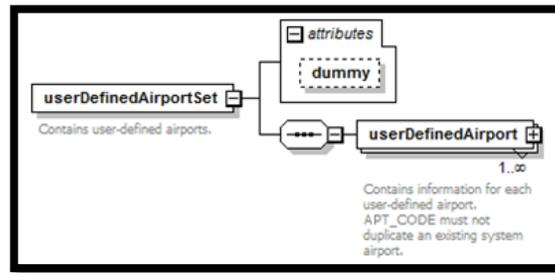

Figure 51. XML userDefinedAirportSet
1. AsifXml/study/userDefinedAirportSet/userDefinedAirport (Figure 51):